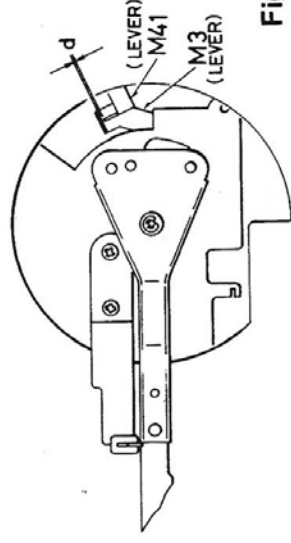

Fig. 3
4. Adjust so that a clearance between the feed lever (M3) and the tip of the arm lever (M41) becomes 0 – 0.3 mm by means of a blade screwdriver inserted into a hole put on with seal (67) at the position above the arm part over the deck panel. (Fig. 3)